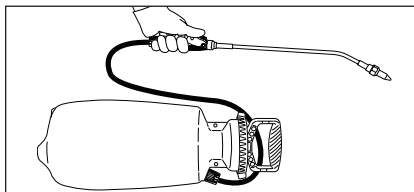

**Figure 8. Apply and Release Shut-off Lock**
3. For continuous spraying, squeeze the shut-off handle and either slide the lock towards you or rotate the lock towards the nozzle. To unlock, slide the lock towards the nozzle or rotate the lock towards you. See Figure 8.
2. Direct the nozzle away from you and squeeze the shut-off handle until the unit stops spraying. This will release the pressure in the tank (Figure 8).